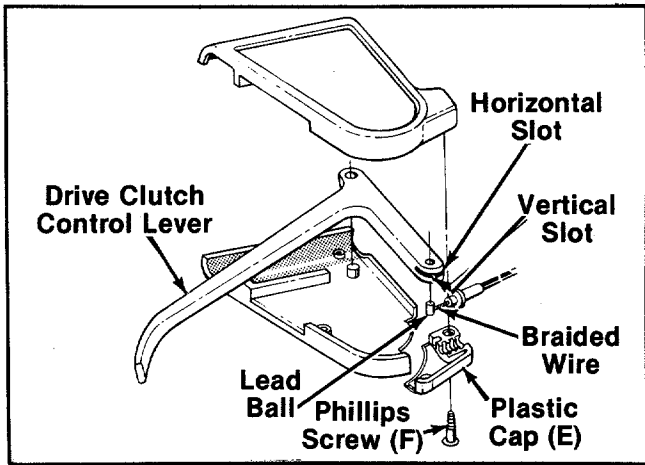

FIGURE 10.
b. Slide the braided wire around in the horizontal slot. See figure 10.
d. Secure the plastic cap (E) to the clutch control housing using the two Phillips head screws (F). See figure 10.